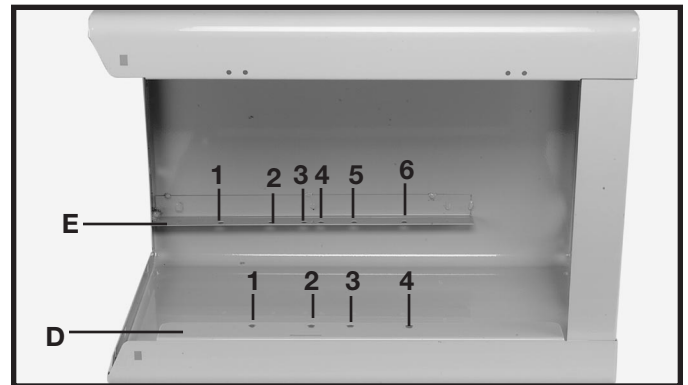
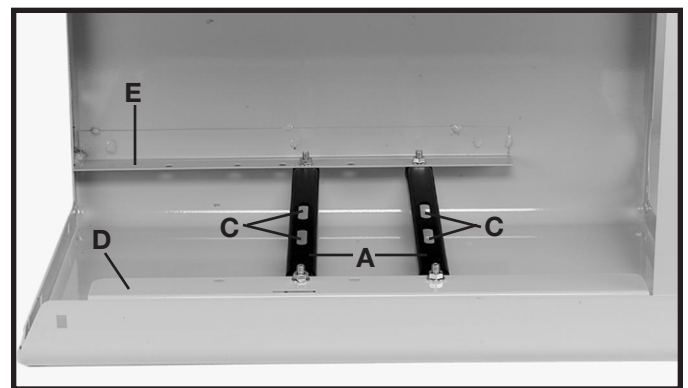

Fig. 6
Fig. 7
1. Place the cabinet on its side as shown in Fig. 6.
2. Align the two holes in the motor bracket (A) Fig. 7, with the two holes in the cabinet. **NOTE: ATTACH MOTOR BRACKETS TO HOLES #2 AND 4 IN FRONT CABINET FLANGE (D) FIG. 6, AND HOLES #4 AND 6 IN REAR CABINET FLANGE (E).**
**NOTE: MAKE SURE THE SLOTS (C) FIG. 7, IN THE MOTOR BRACKET (A), ARE POSITIONED CLOSER TO THE OPENING OF THE CABINET (D) THAN THE BACK PANEL (E) OF THE CABINET.**
3. Insert 5/16-18x3/4" carriage head bolts through the holes in the motor brackets (A) Fig. 7, and the holes in the cabinet.
4. Adjust the belt tension by raising or lowering the motor on the motor mounting brackets (A) Fig. 7. Keep the pulleys in alignment when performing this operation. Proper tension is 1/4" deflection at the center of the belt with light finger pressure.